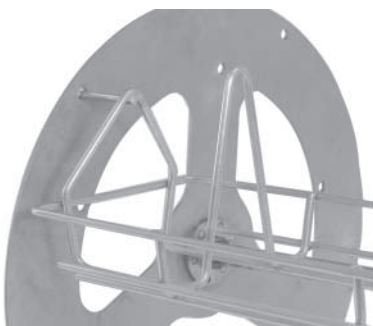

**Fig. 21**
2. Fit the notched end of fork spit into appropriate holes on the drive side of the rotor (Fig. 21).